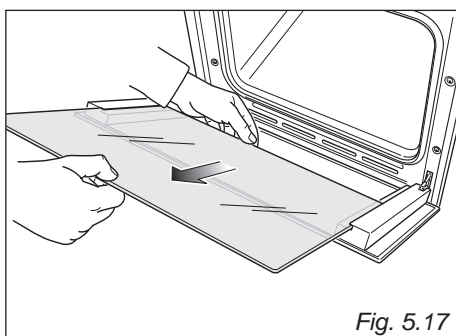

Fig. 5.17
- Gently pull out the inner pane of glass (fig. 5.17).